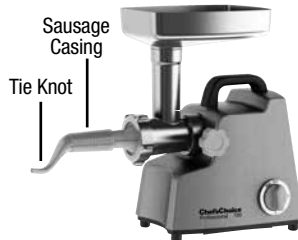

Figure 2. Sausage casing mounted on fully assembled grinder with sausage casing attachment.
3. Dry casings, whether natural or artificial, typically need to be soaked in water until they are soft and pliable; follow manufacturer’s instructions. It is easiest to work with a 3-4 foot section. Find the opening in one end of the casing and slide it onto the selected sausage tube. Continue sliding the rest of the casing onto the sausage tube (see Figure 2) until 2-3 inches remain. Tie a knot in this remaining section.